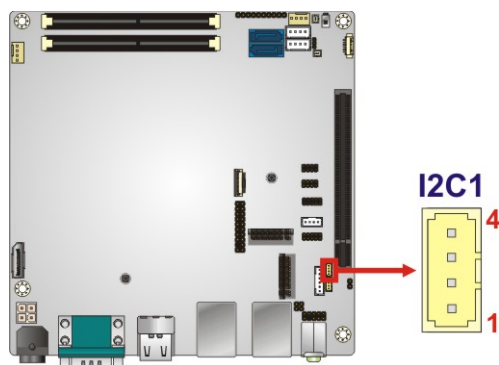

Figure 3-14: I²C Connector Location
- CN Location:** See **Figure 3-14**